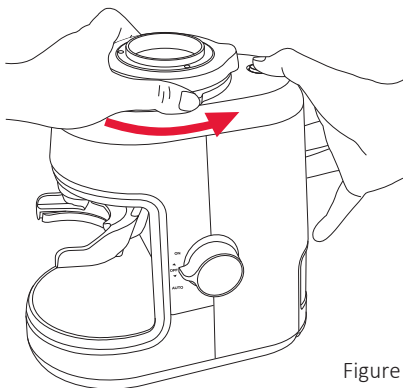

Figure 9
3. To remove the grind cartridge, press and hold down the 'RELEASE' button on the top of the grinder base and with the other hand hold the cartridge grip tabs and turn anti-clockwise, see figure 9.